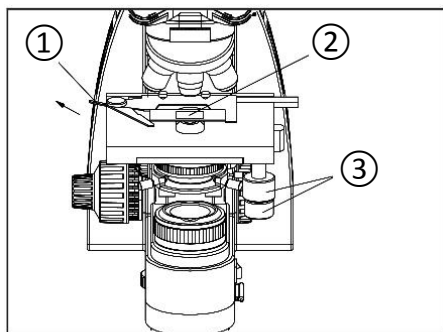

Fig. 7
Rotate the X and Y-axis knobs ③ to move the slide into position. (Fig. 7)